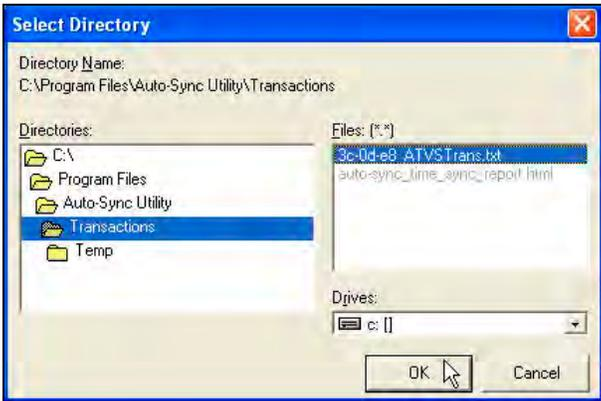

Figure 5-9. Select Report Directory.
6. You should see the files you want to use in the "Files *.*" listing on the Select Directory screen (see *Figure 5-9*). Click the **OK** button to close the Select Directory screen. The default location path will be: C:\Program Files\Auto-Sync Utility\Transactions\Temp.
NOTE: The transaction file will automatically be named auto-sync_time_sync_report.html or .txt (see Figure 5-9). The transaction report file created in either html or text format can be easily edited. Every time you create a report file the previous report file will be overwritten. It is recommended to move the report file to a different location if you do not want that to happen.